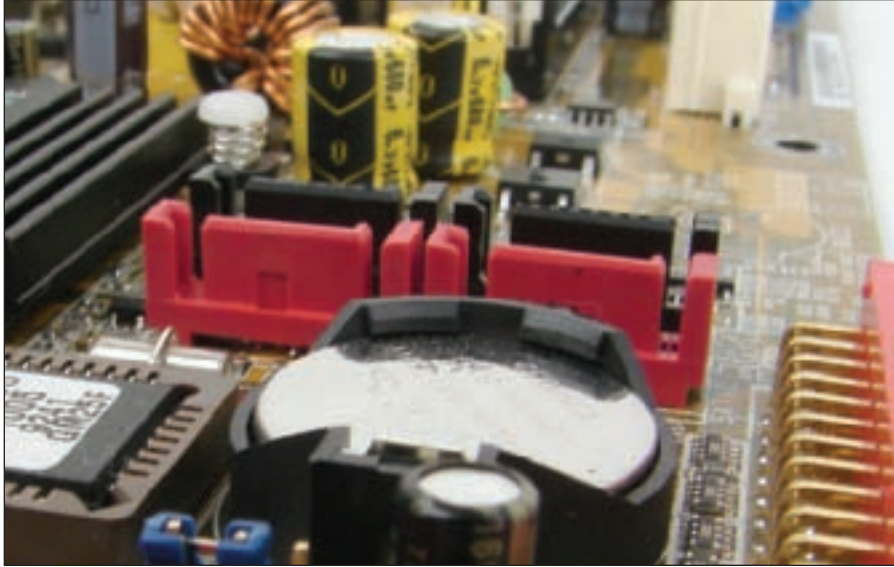

Figure 8-25 This motherboard has four serial ATA connectors
- Check the motherboard documentation to find out which serial ATA connectors on the board to use first. For example, four serial ATA connectors are shown in Figure 8-25. The documentation says to use the two red connectors (labeled SATA1 and SATA2 on the board) before you use the black connectors (labeled SATA3 and SATA4). Connect